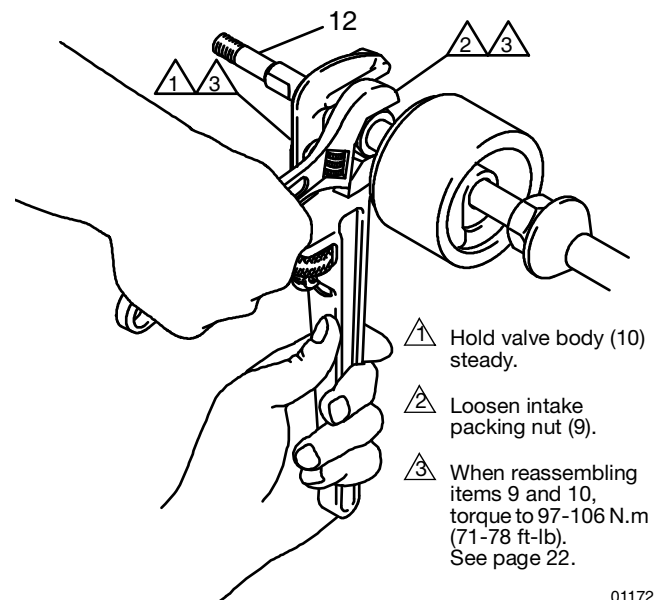

Fig. 8
9. Hold the valve body (10) steady with a wrench on the flats. Using an adjustable wrench, loosen the intake packing nut (9) to decrease tension on the priming piston rod (12). Now slide the intake valve assembly off the rod and set it aside. See Fig. 8.
9. Slide the assembled intake valve onto the priming piston rod (12), making certain that the packing nut (9) goes on the rod first. Push the valve assembly up the rod, stopping before it reaches the rod guide (18).
10. Hold the valve body (10) steady with a wrench while using an adjustable wrench to tighten the packing nut (9). See Fig. 8. Torque to 97- 106 N.m (71- 78 ft- lb). Use a hammer and brass rod to carefully drive the valve assembly further up the rod until it reaches the stop (VS).
11. Remove the displacement rod (1) from the vise. Place the cylinder (4) sideways in the vise with soft jaws.